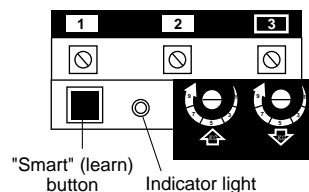

Figure 2
2. Press and release the "Smart" (learn) button on the opener panel. See Figure 2. The indicator light on the panel will begin to blink and the opener lights will *flash once*.